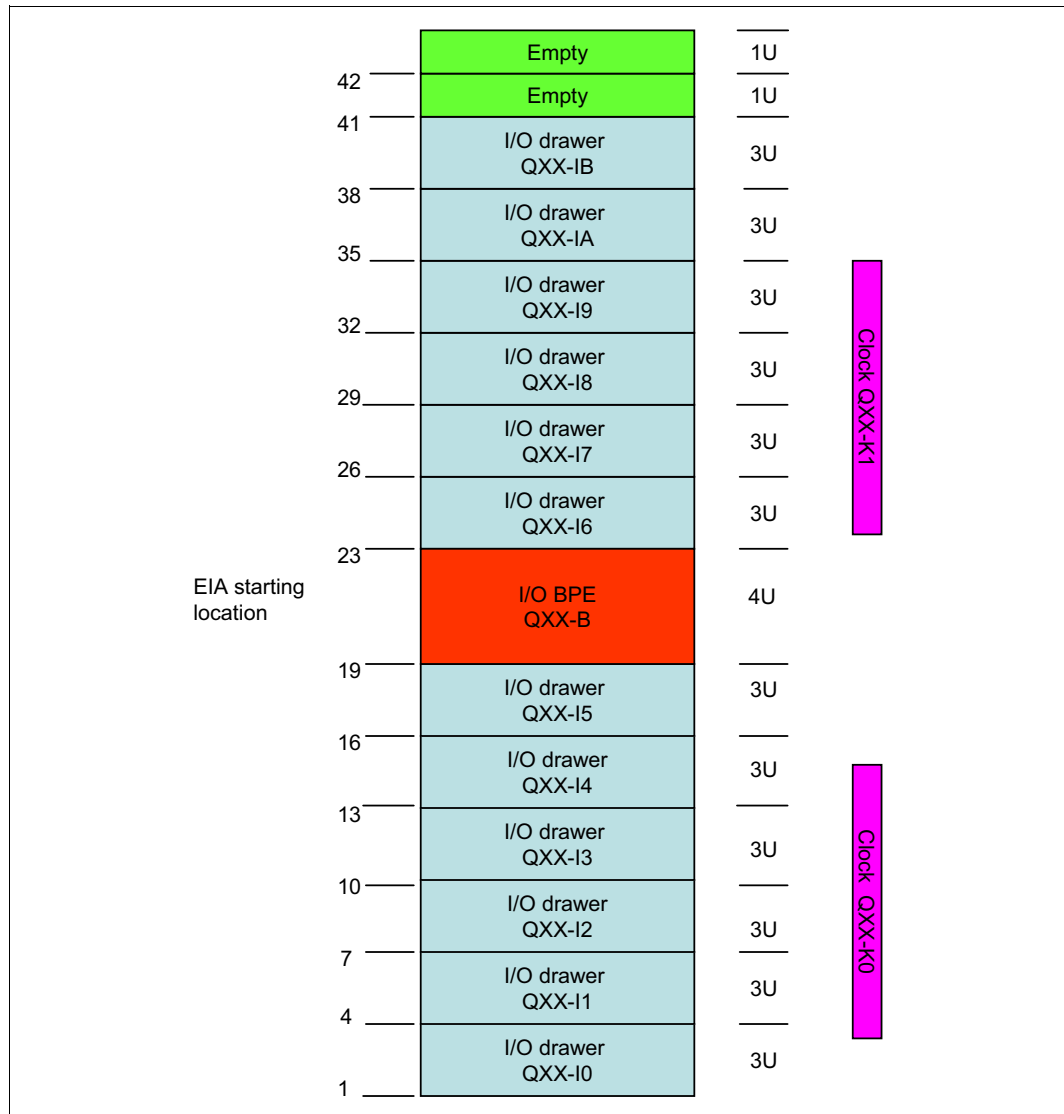

Figure 3-9 I/O rack population for above-floor cable management
See Figure 3-9 for information about the labels that are used in this procedure. Perform the following steps to install the I/O rack for overhead cable trays:
4. Install the I/O drawer Qxx-I5, then install the remaining lower I/O drawers. Figure 3-9 shows the rack drawer positioning for overhead cable management.
6. Install the remaining upper I/O drawers. Leave 2U empty at the top of the rack. See Figure 3-9 for the rack drawer positioning. Install the cable management arms and interlock brackets.